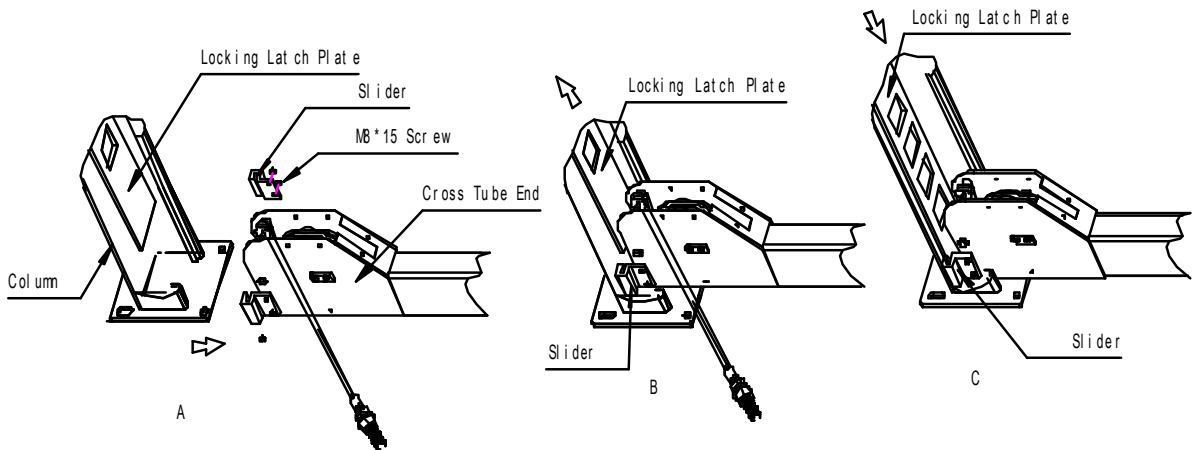

Fig.10
- Bolt sliders onto each side of the cross tube ends. When both sliders are attached, push column toward cross tube end until sliders touch latch plate.(Fig.10 A,B,C)